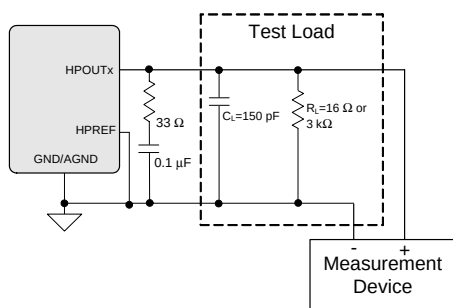
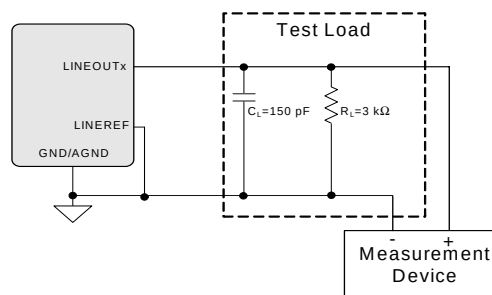

Figure 3. HP Output Test Configuration
Figure 4. Line Output Test Configuration
Test conditions (unless otherwise specified): Connections to the CS42L55 are shown in the “Typical Connection Diagram” on page 10; Input test signal is a full-scale 997 Hz sine wave; All Supplies = VA, VCP Mode; GND = AGND = 0 V; $T_A = +25^\circ\text{C}$; Measurement bandwidth is 20 Hz to 20 kHz; Sample Frequency = 48 kHz; Test load $R_L = 3\text{ k}\Omega$, $C_L = 150\text{ pF}$ for a Line Load, and test load $R_L = 16\text{ }\Omega$, $C_L = 150\text{ pF}$ for a headphone load. (See Figure 3 on page 15).
Test conditions (unless otherwise specified): Connections to the CS42L55 are shown in the “Typical Connection Diagram” on page 10; Input test signal is a full-scale 997 Hz sine wave; All Supplies = VA, VCP Mode; GND = AGND = 0 V; $T_A = +25\text{ }^{\circ}\text{C}$; Measurement bandwidth is 20 Hz to 20 kHz; Sample Frequency = 48 kHz; Test load $R_L = 3\text{ k}\Omega$, $C_L = 150\text{ pF}$ (see Figure 3 on page 15).
- See Figure 3 and Figure 4 on page 15. Refer to “Parameter Definitions” on page 71.